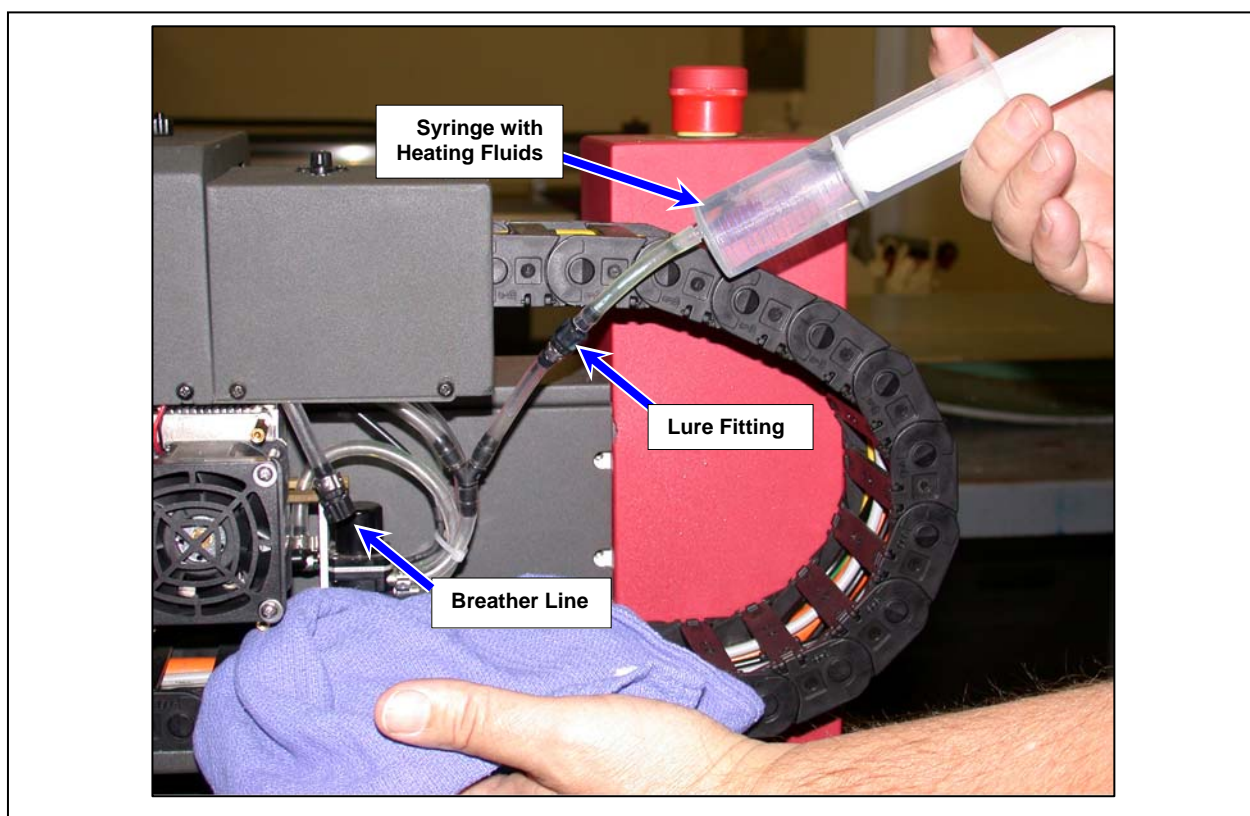

Figure 52 Adding Fluids to the Head Heating System
- 2 Open the Lure fitting in the heating system supply line. See **Figure 52**.